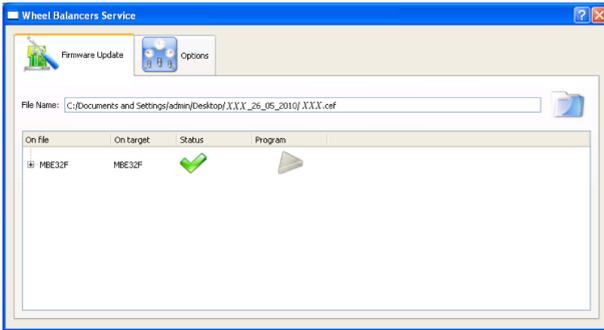

Fig.3A
- With the machine off, set the dip switch (A, fig. 3A - which is required for entering diagnostic mode) as follows: **MBE32F: SW1 DSW2 to ON.**
- With the machine switched off set the deep-switch (A, fig. 3A) which is necessary for the programming based on the card to be updated, i.e.:
- Connect the serial cable code 4-105051 to the "JPS1A" connector of the card itself (B, fig. 3A). The other end of the cable is connected to the RS232 serial port on the PC. If the PC does not have a RS232 port use the RS232/USB adapter code 8-64500002.